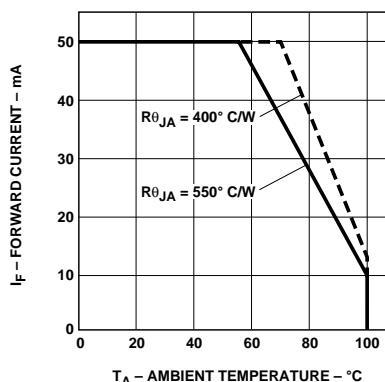

Figure 6. Maximum Forward DC Current vs. Ambient Temperature. Derating Based on $T_{j,\text{MAX}} = 110^\circ\text{C}$.
3. Derate linearly as shown in Figure 6.